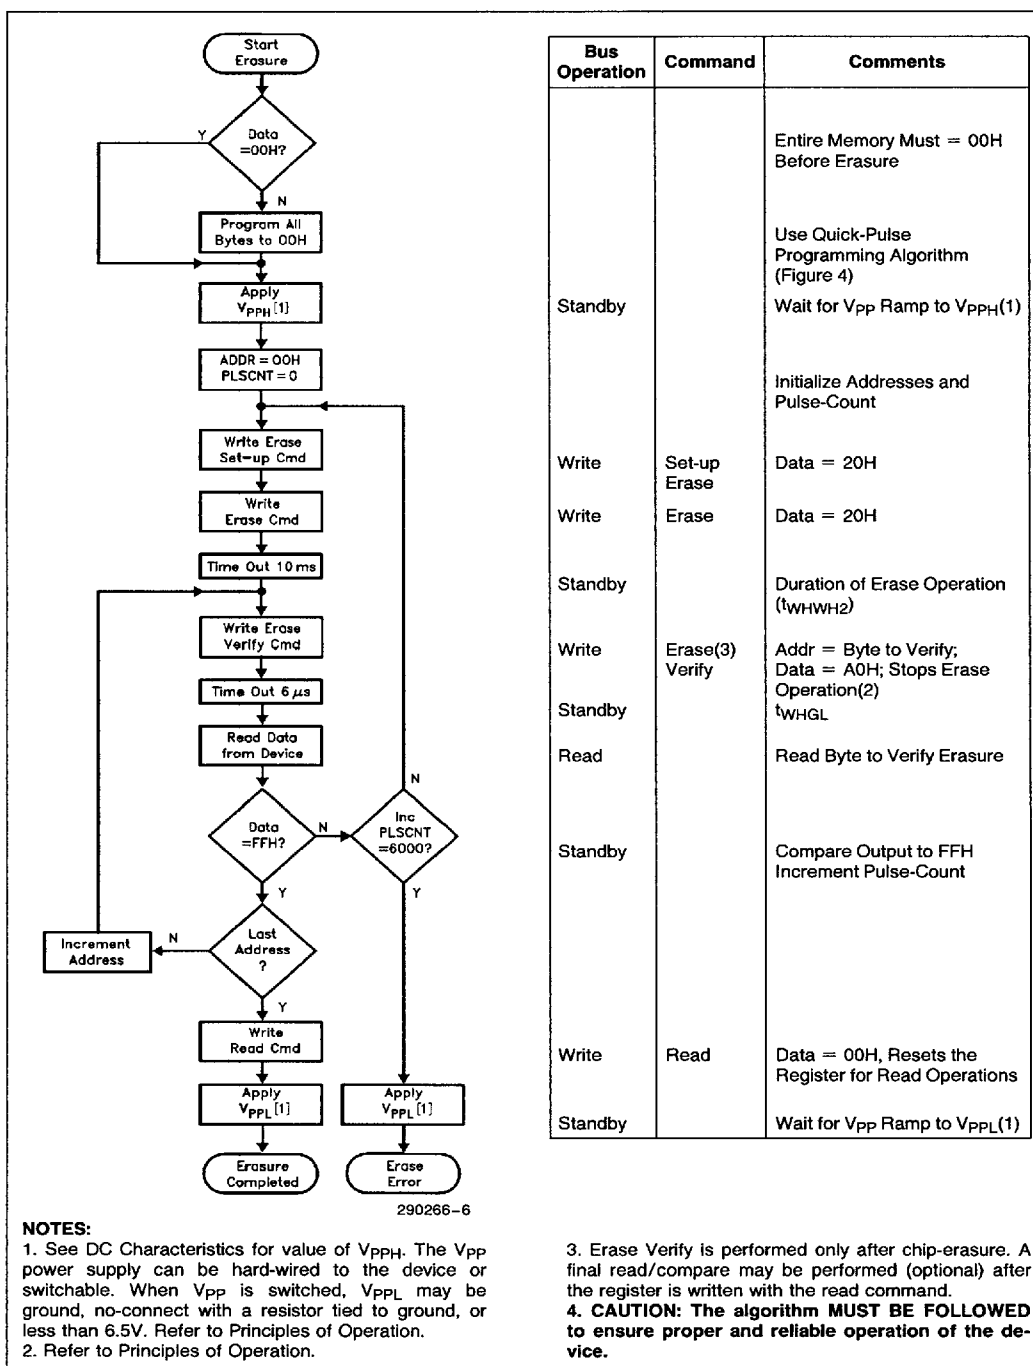

Figure 5. A28F010 Quick-Erase Algorithm
- Figure 5 illustrates the Quick-Erase Algorithm.
In the case where the data read is not FFH, another erase operation is performed. (Refer to Set-up Erase/Erase). Verification then resumes from the address of the last-verified byte. Once all bytes in the array have been verified, the erase step is complete. The device can be programmed. At this point, the verify operation is terminated by writing a valid command (e.g. Program Set-up) to the command register. Figure 5, the Quick-Erase algorithm, illustrates how commands and bus operations are combined to perform electrical erasure of the 28F010. Refer to A.C. Erase Characteristics and Waveforms for specific timing parameters.
Erasure execution then continues with an initial erase operation. Erase verification (data = FFH) begins at address 0000H and continues through the array to the last address, or until data other than FFH is encountered. With each erase operation, an increasing number of bytes verify to the erased state. Erase efficiency may be improved by storing the address of the last byte verified in a register. Following the next erase operation, verification starts at that stored address location. Erasure typically occurs in one second. Figure 5 illustrates the Quick-Erase algorithm.